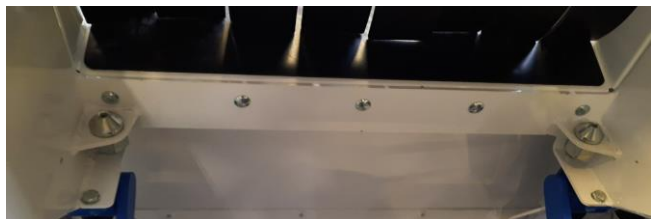

Figure 13. Screen attachment points
3. Before fitting the clean screen, check that the attachment points are free of dirt (Figure 13).